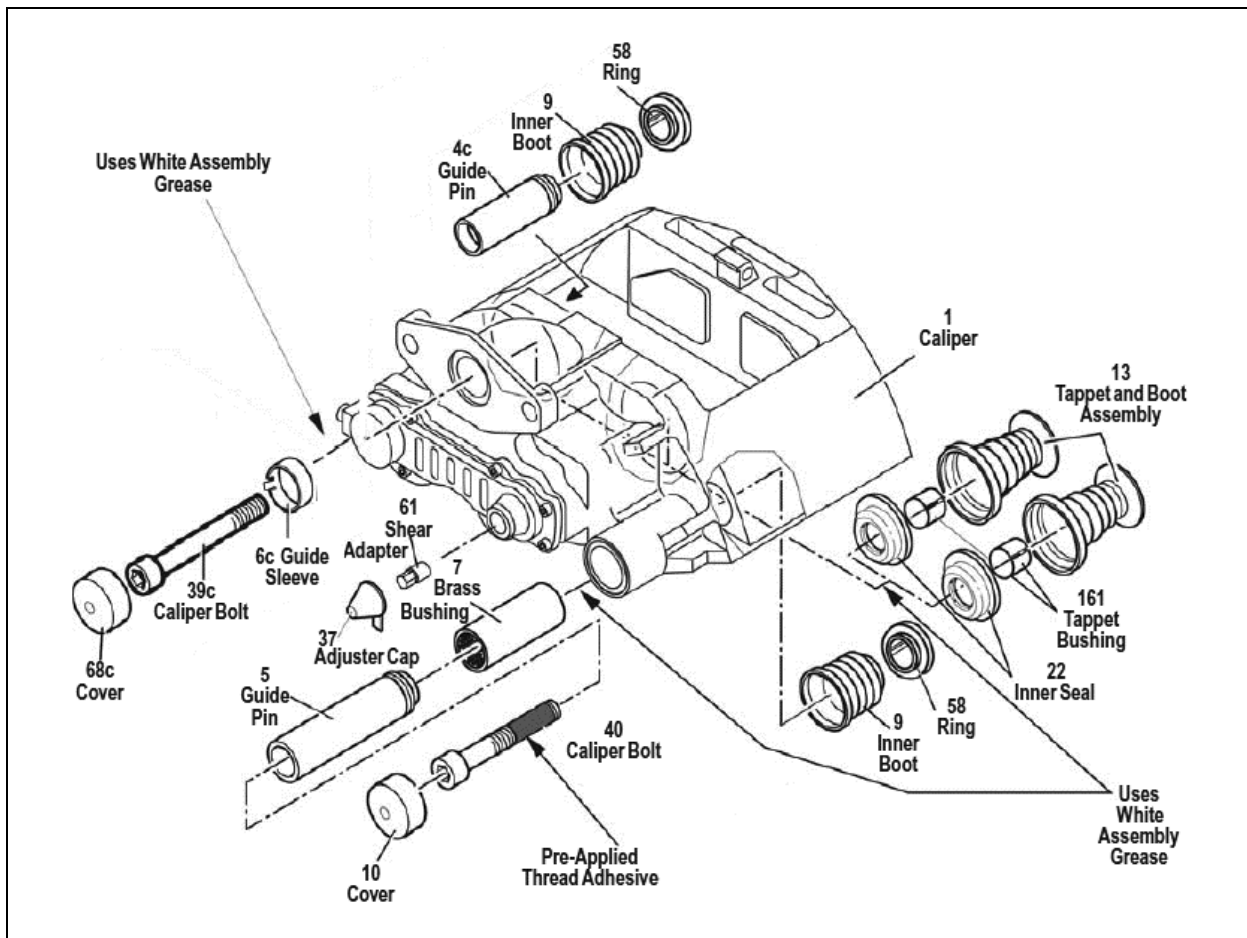

FIGURE 23: BRAKE COMPONENTS
At each pad replacement, make sure the caliper operates smoothly over its full range of movement. If the caliper shows the following signs, replacement of the guide sleeve (6c, fig 23), guide pin, screw (39) and cap is required.
Additionally, inspect the tappet and boot assemblies (13, Fig. 23), the adjuster cap (37) and the sealing elements (9, 58) for correct fitting and condition as well as the caliper bearing in the area of the rubber bush/guide sleeve (6) (see *KB Manual*, Section 5.3.3).